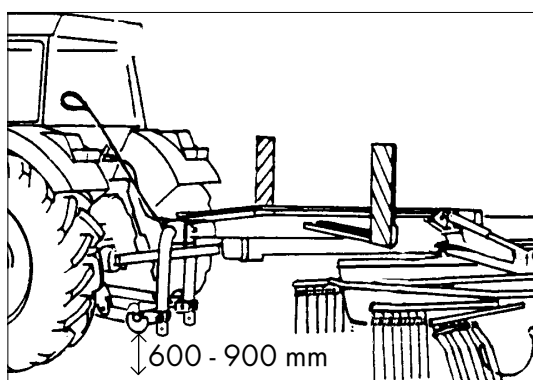

Fig. 3-9
2. Lift the lower link by 600-900 mm (fig. 3-9) so that the Helipede Rotary Windrower is horizontal or tilted forward by no more than 1°. Totally lift the hydraulic chassis frame (optional equipment of type 6958). To do this open the shut-off tap, operate the ball cock by pulling the black unlocking rope and set the tractor spool valve to LIFT.